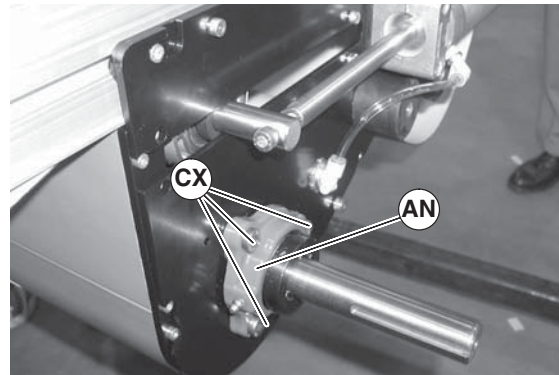

Figure 88
4. Remove the three (3) mounting screws (Figure 88, item CX).
5. Remove and replace bearing housing assembly (Figure 88, item AN).